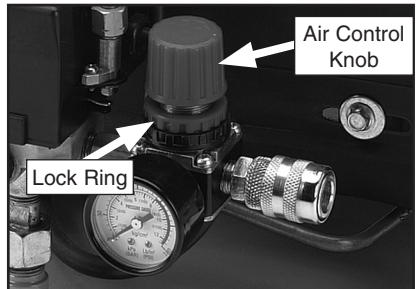

Figure 8. Tool air control knob.
1. Adjust the air control knob, shown in Figure 8, to set the PSI that will be delivered to your tool. Turn the knob clockwise to increase the pressure or counterclockwise to decrease the pressure.
2. Rotate the lock ring shown in Figure 8 against the bottom of the air control knob to prevent changes in the air pressure.